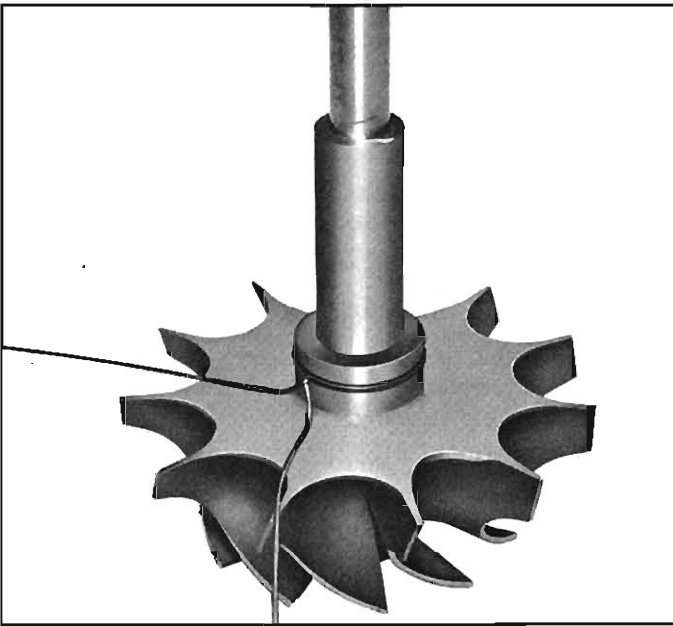
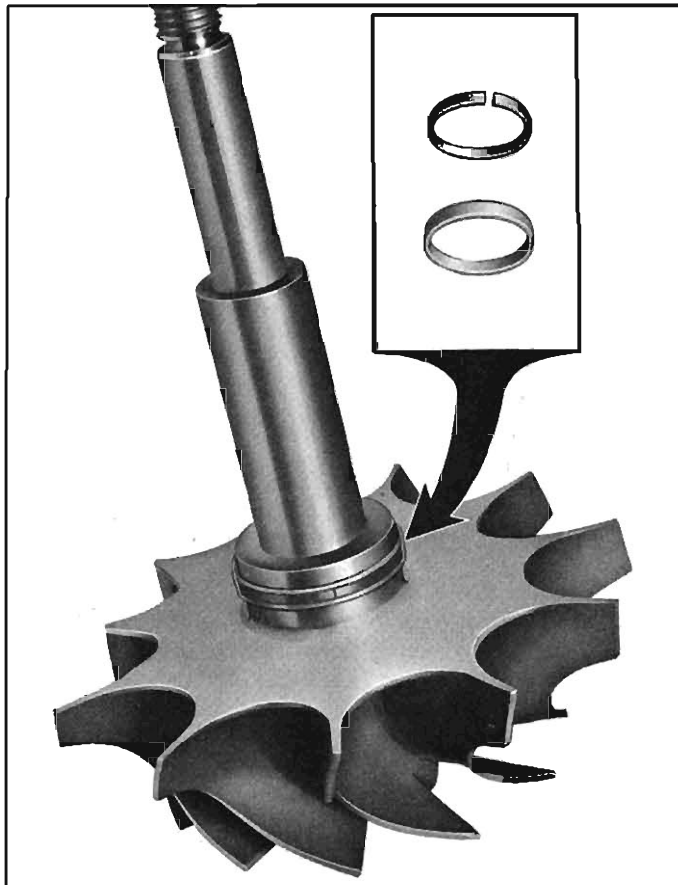

Fig. 9-52—Ring Compressed, Using Tag Wire
Fig. 9-53—Compressing Ring, Using Plastic Installer Ring
11. Lubricate the turbine shaft seal ring groove with oil and install ring into groove. Compress the ring into the groove using tag wire (fig. 9-52) or a plastic compression ring (fig. 9-53). If tag wire is used, make one twist with pliers and bend the wire to form it along the curvature of shaft and wheel back face as shown in Figure 9-52). (Remember direction of twist for removal.)